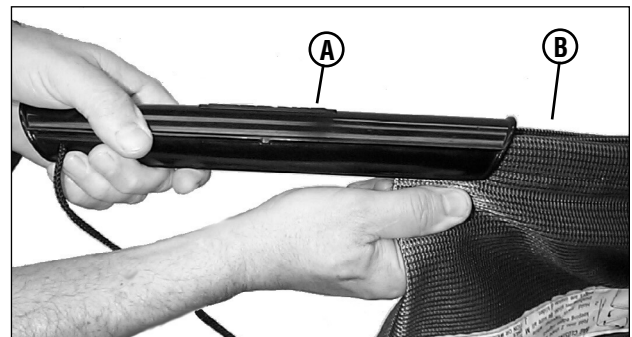

Figure 15: Removing the bag slider
2. Open the bag by pulling the bag slider **(A, Figure 15)** off of the Z-fold at the rear of the bag **(B)**.